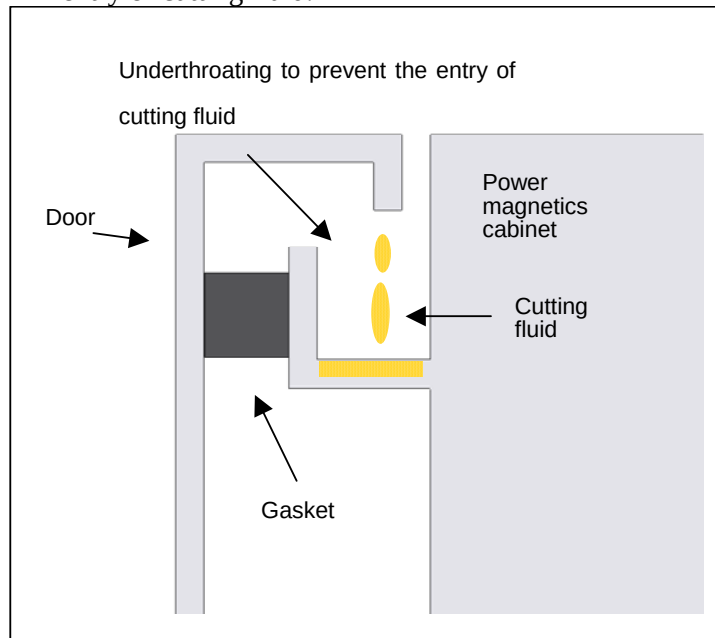

Fig. 8 Explanation of underthroating
- <7> Provide an underthroating at the portion where the power magnetism cabinet frame meets the door (Fig. 8) to prevent the entry of cutting fluid.